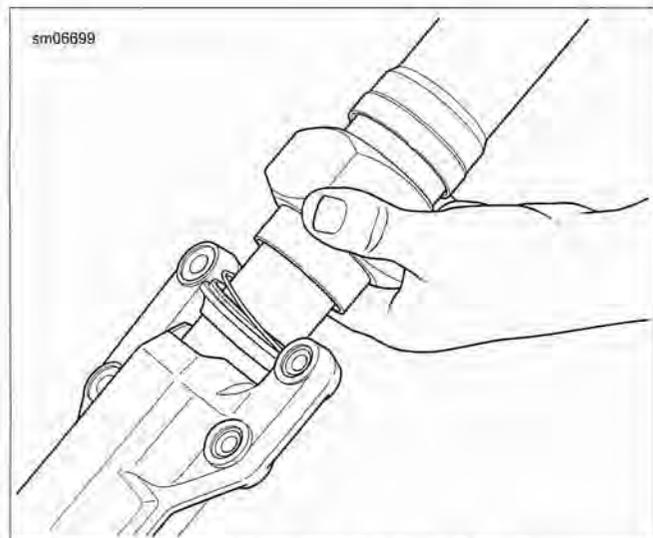

Figure 2-156. Seating the Oil Seal
4. See Figure 2-156. Seat the oil seal with the FORK SEAL DRIVER AND DUST BOOT INSTALLER (Part No. B-42571).